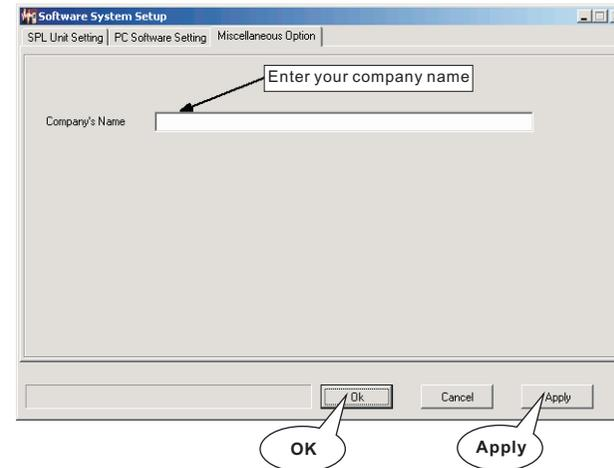

Figure 30
- Click option page Miscellaneous Option will enter into the window as shown in figure 30: